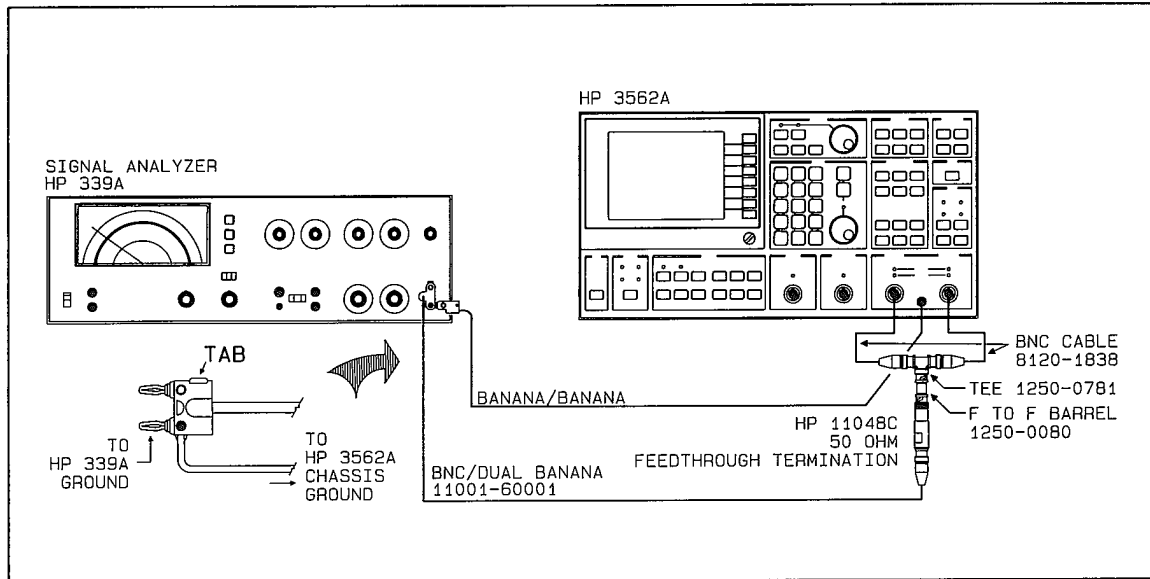

Figure 2-22 Harmonic Distortion Test setup #2
E. For measurement two, connect the test instruments as shown in figure 2-22. The chassis ground cable must go to the ground terminal of the low distortion oscillator.